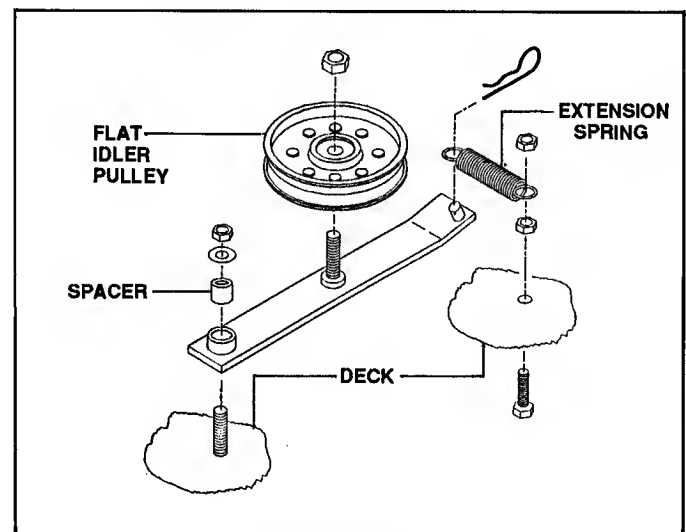

FIGURE 11.21
1. Shown below (Figure 11.21) is a typical single idler assembly. Replaceable parts are the bushing, spring, pulley and some hardware - the single arm weldment should seldom need replacing.